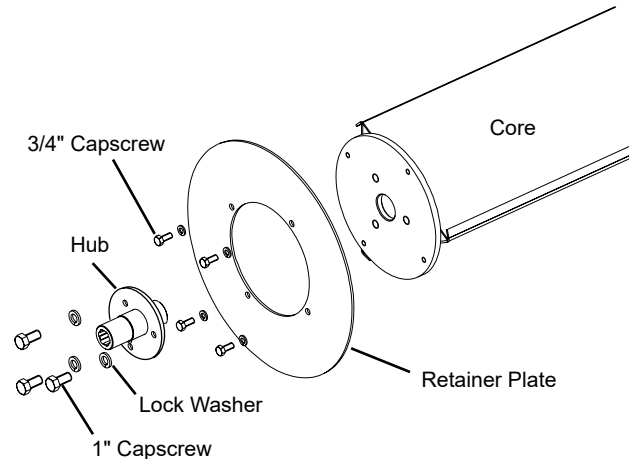

Figure 5
2. Remove (2) 1/2-13 x 1-1/2" capscrews, flat washers, lock nuts and motor guard from brush frame. Retain guard and mounting hardware. See Figure 5.
3. Remove (2) 1/2-13 x 3-1/2" capscrews, flat washers, retainer washers and lock nuts from the brush frame. Slide motor and motor mount plate out of mating splined hub. Let motor hang on hoses. Retain mounting hardware. See Figure 5. Remove (2) 5/8-11 x 2" carriage bolts and lock nuts attaching core support bearing to bottom of brush frame at each end of broom. See Figure 5.
2. Attach core support bearings to bottom of brush frame at each end of broom with original hardware. See Figure 5.
4. Install motor mount plate on brush frame using original hardware. See Figure 5.
5. Install motor guard on brush frame with original hardware. See Figure 5.